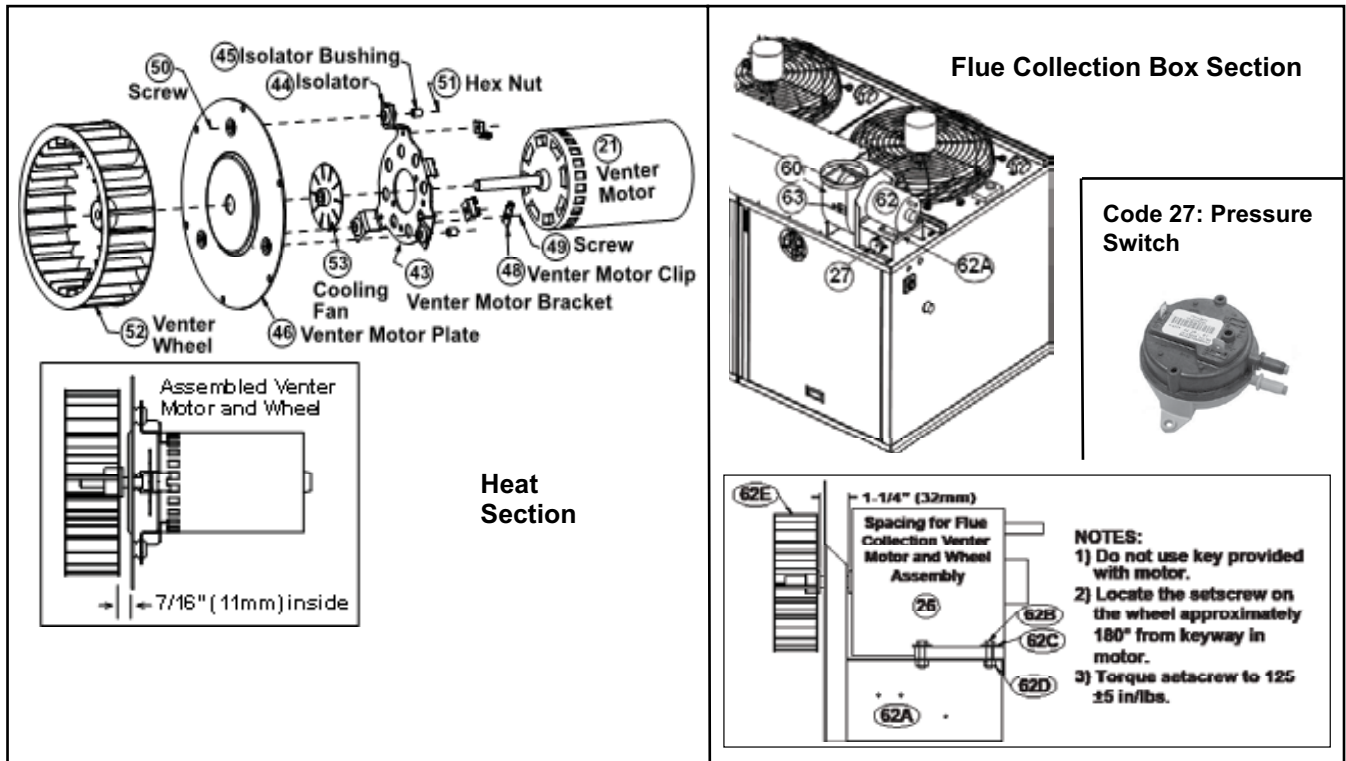

**Figure 4. Thermostats**
- **Code 30:** Single-stage thermostat (see Figure 4), 24V, 50–90°F with fan switch (PN 255350, same as option CL1)
- **Code 31:** Two-stage digital thermostat with fan switch (see Figure 4), 24V (PN 220630, same as option CL22)